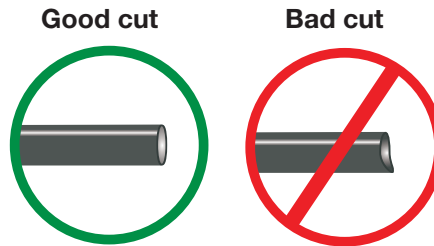

fig. 10
1. Cut the air line in half. Make clean, square cuts with a razor blade or hose cutter (Fig. 10). Do not use scissors or wire cutters.
- a. Check the air line connection by deflating the spring and removing the line by pulling the collar against the fitting and pulling firmly on the air line. Trim 1" off the end of the air line. Be sure the cut is clean and square (see Fig. 10). Reinsert the air line into the push-to-connect fitting.